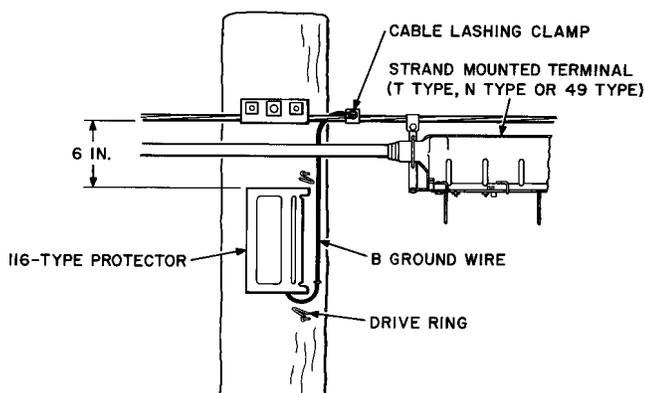

Fig. 7—Mounting 116-Type Protector at Ready Access Terminal
3.03 Locate 116-type protectors, when required at strand-mounted and ready access terminals directly below the strand as shown in Fig. 7.